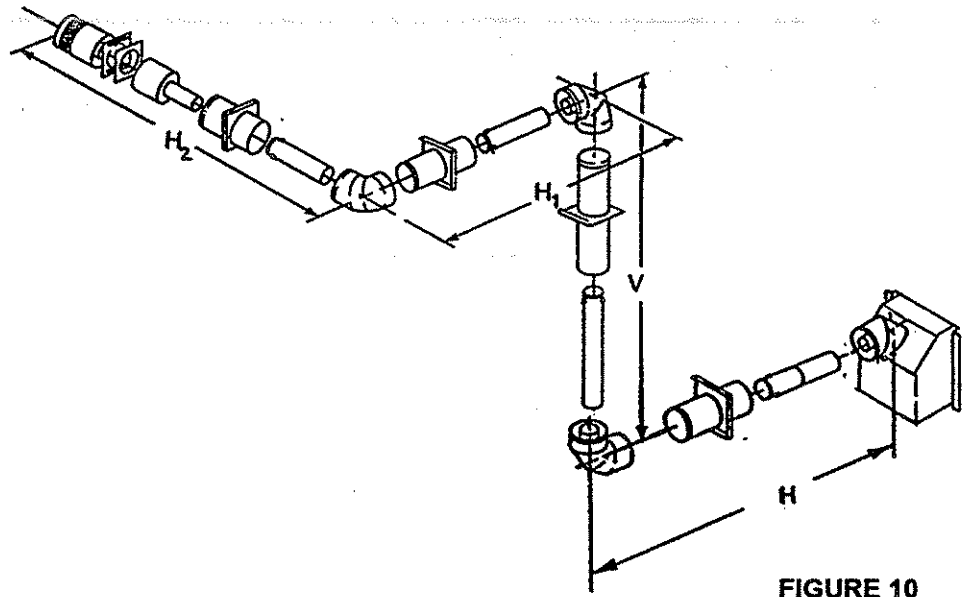
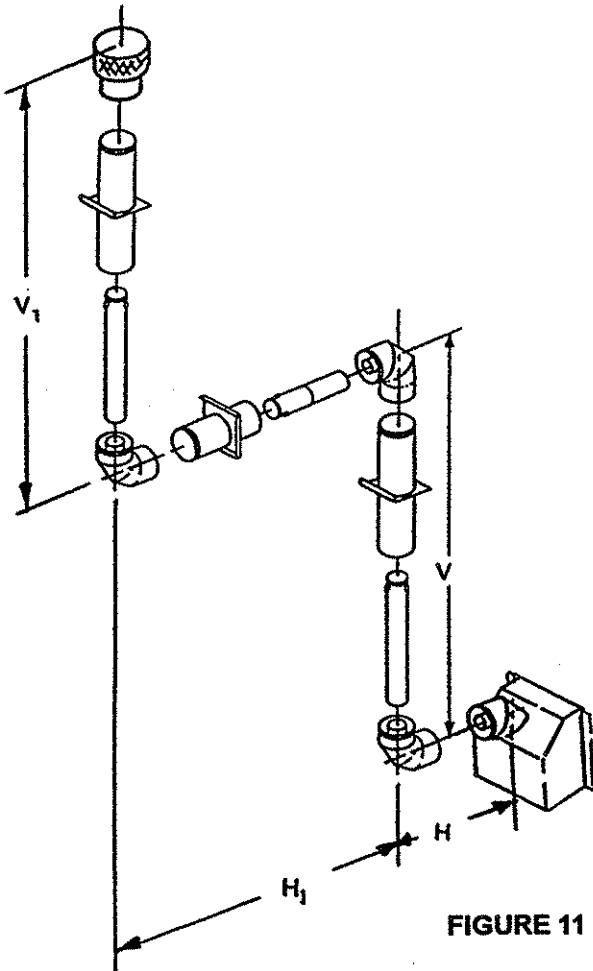

FIGURE 10
FIGURE 11
Figure 10 and Table 5 show examples of possible installations using three (3) 90° elbows and a horizontal termination. Figure 11 and Table 6 show examples of possible installations using three (3) 90° elbows and a vertical termination. Dimensions V are listed **MINIMUM** first vertical dimensions and dimensions H are listed as beginning **MAXIMUM** horizontal dimensions. Dimensions $H+H_1$ (vertical termination) and $H+H_1+H_2$ (horizontal termination) are listed as **TOTAL MAXIMUM** horizontal dimensions. A vent system using three (3) 90° elbows can terminate either horizontally or vertically.